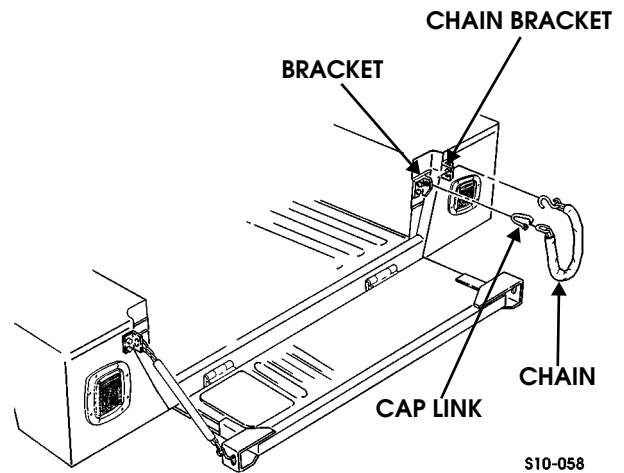

Figure 10-151: Tailgate Chain Replacement
2. Open chain cap link and disconnect chain from bracket (Figure 10-151).
1. Hook chain to chain bracket (Figure 10-151).